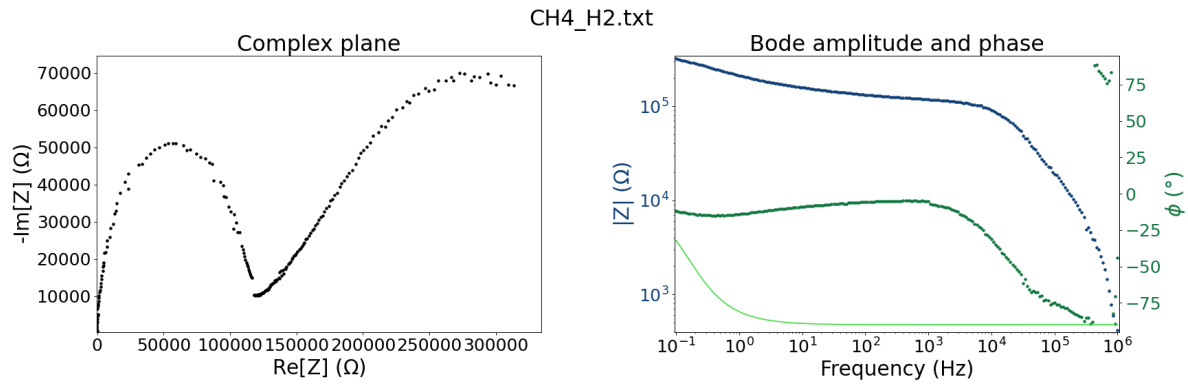

Figure 40: Spectrum loaded from $(f, |Z|, \phi)$ data.
4. Go to **File>Load data...** to open the file from step 1 in DEC*i*M. The data should now appear in the main DEC*i*M window (Figure 40).